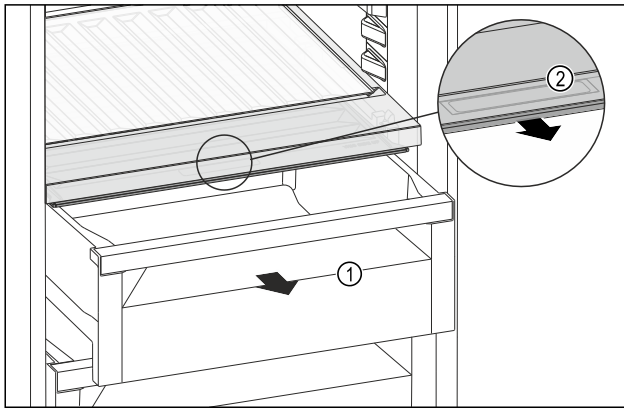

Fig. 192
- ▶ Pull out the drawer Fig. 192 (1).
- ▶ Grasp the recessed grip Fig. 192 (2) on the compartment lid and pull the compartment lid forwards at the same time.